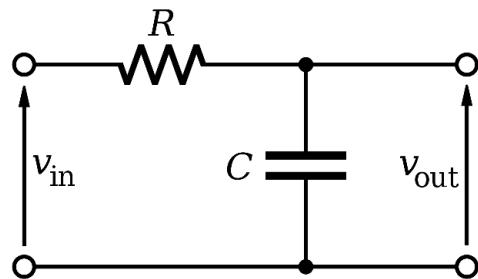

Figure 1: Series RC Circuit
Derive the transfer function of the circuits given in figure 1, 2 and 3.
In previous labs, you have observed that how the response of a system can be altered according to the principles of feedback control by implementing controllers using software. In this lab, you will be implementing controller on hardware level using analog electronic components to control the response of a simple first order RC circuit given in figure 1. The output variable is the voltage across capacitor C. To modify the system's dynamic response in order to achieve the desired time-domain specifications, you will design and implement controller utilizing op-amps in different configurations.
For the series RC circuit shown in figure 1 with input voltage  $V_i$  and output voltage  $V_o$ , the transfer function can be given as:
1. For the RC series circuit shown in figure 1 where  $R=2.2k\Omega$  and  $C=470\mu F$ , estimate the time constant, 2% settling time, overshoot, peak time and steady-state error. In your estimations use the measured value of resistor (i.e.  $2.2 k\Omega$ ) with DMM.